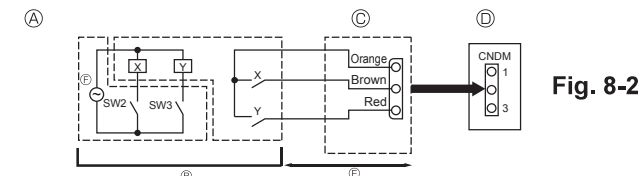

Fig. 8-2
8.2. Demand function (on-site modification) (Fig. 8-2)